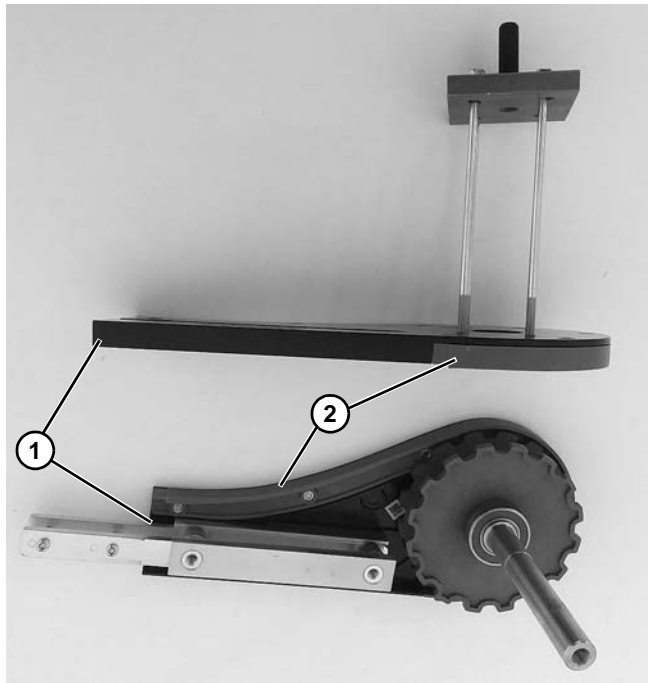

Figure 121
7. Remove the head plates (Figure 121, item 1) from the drive tail.